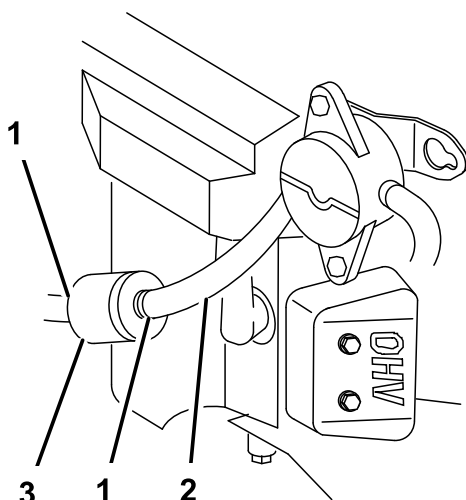

Figure 39
4. Squeeze the ends of the hose clamps together and slide them away from the filter (Figure 39).